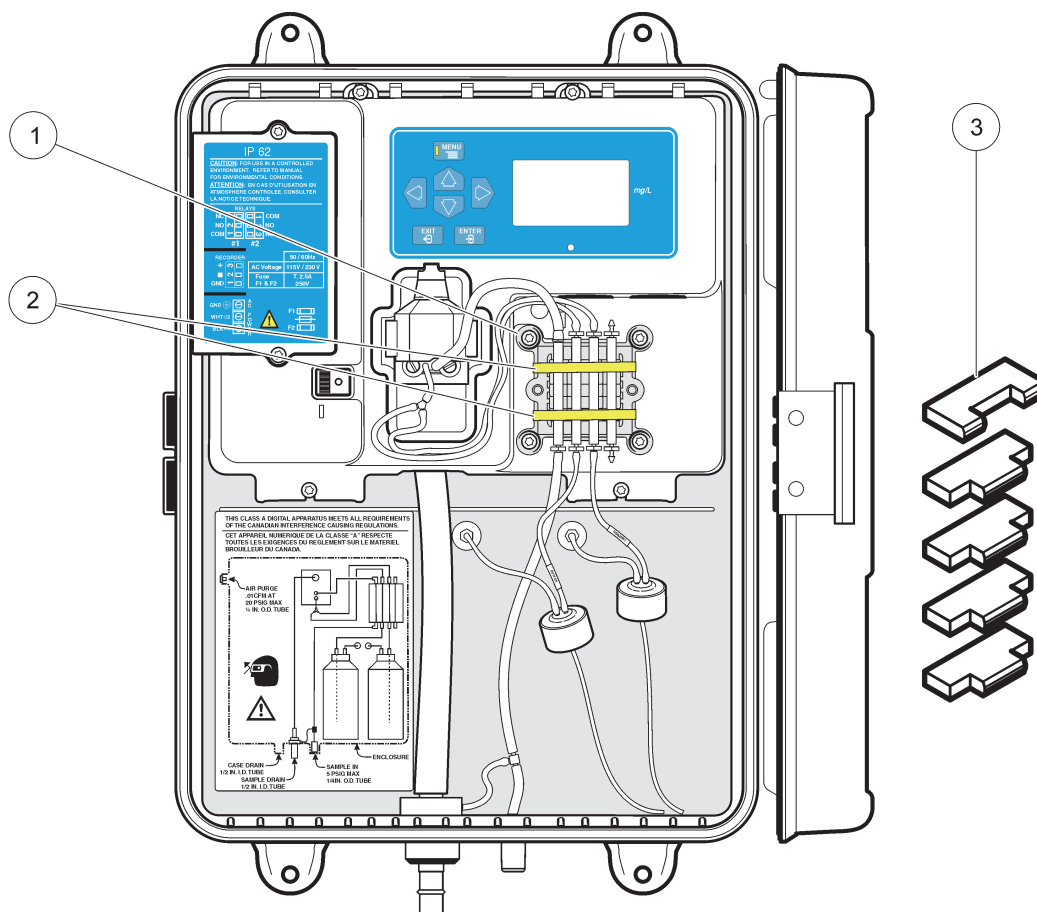

Figure 17 Installing pump/valve module pinch blocks
2. Make sure the individual pinch blocks are positioned as shown in Figure 17, with the dissimilar-shaped block on top.